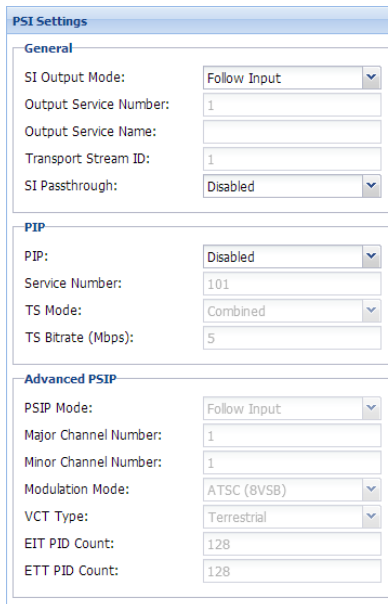

Figure 28: PSI Settings
The PSI encoding settings are found on the third pane as shown in Figure 28. These settings allow the transcoder to pass-through or manually change the Service Information (SI) for the output TS.